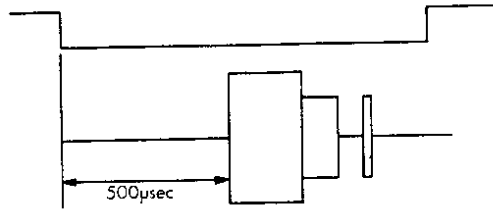

Fig. 5-1 Index burst waveform
- 5) Measure timing between sweep start and an initial data pulse. It should be 500 usec  $\pm$ 500 usec. When the timing is not within this range, proceed with the following adjustment. (Refer to Fig. 5-1).
- 8) Seek to the track OO and make sure that the timing is within 500 usec ( $\pm$ 300 usec). Tighten the screws. (Fig. 5-1).